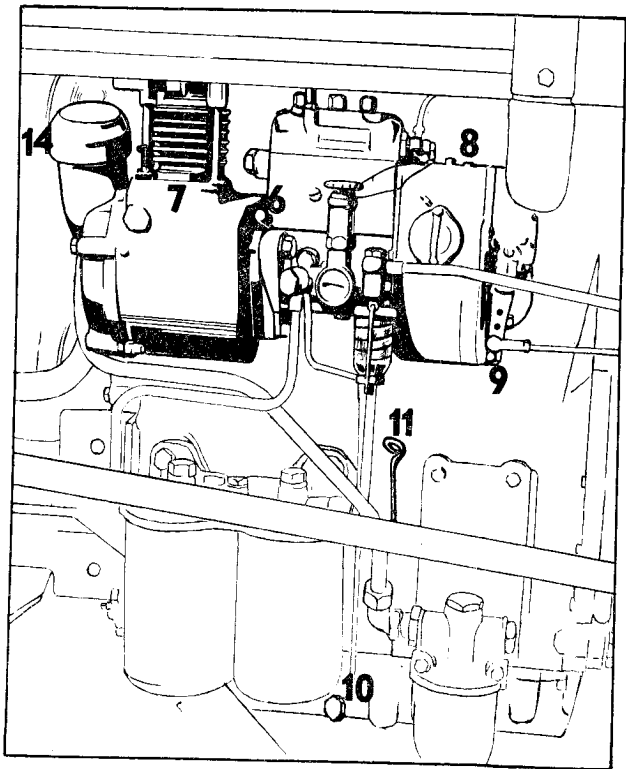
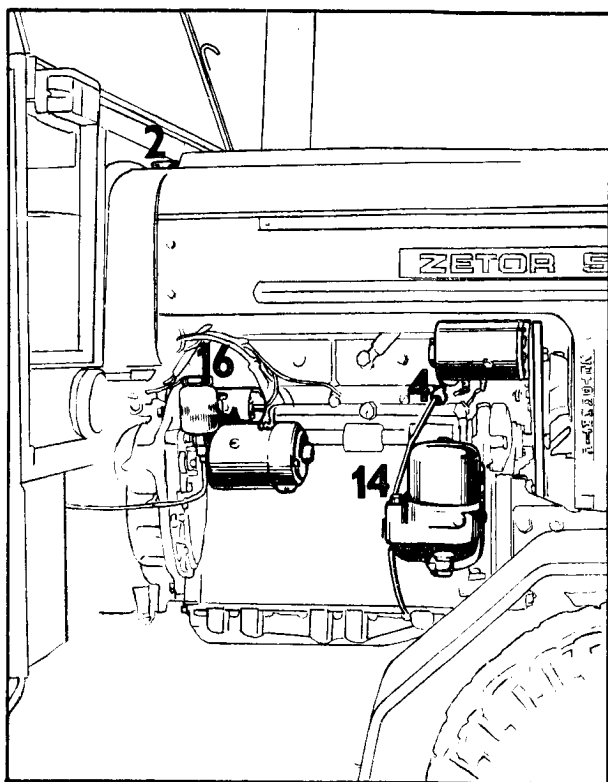

Fig. 7
Fig. 8
6. Compressor control lever (Fig. 7/6).
7. Lock (Fig. 7/7).
2. Fuel filling orifice (Fig. 8/2).
4. Water drain tap from crankcase (Fig. 8/4).
7. Oil filling orifice of the injection pump and governor (Fig. 7/8).
8. Engine oil filling orifice (Fig. 7/14) of Z 4712 and Z 4718 tractors, (Fig. 8/14) of Z 5711—Z 5748 and Z 6711—Z 6748 tractors.
9. Oil draining hole of the injection pump and governor (Fig. 7/9).
10. Engine oil drain bolt (Fig. 7/10).
11. Oil dipstick for checking of the oil level in the engine sump (Fig. 7/11).
16. Brake liquid filling orifice (Fig. 8/16).